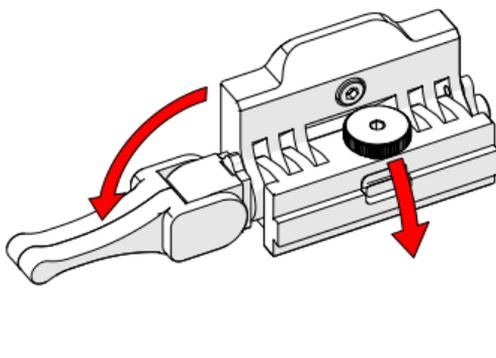

Fig. 141 - Angle pivot nose down
3. Release the side lever of the raster arm pivot nose (*male*) and angle the raster arm pivot nose downward (Fig. 141).